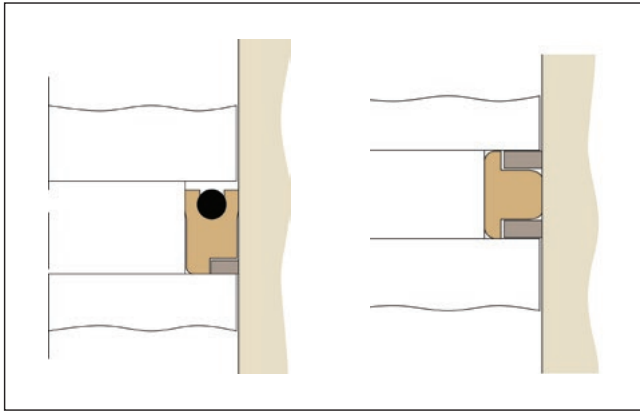

Figure 10-2. Positively-Actuated Back-up Rings
**Positively-actuated back-up rings** are actuated both axially and radially into the extrusion gap, guarding the seal against extrusion (see Figures 10-2 and 10-3). For many profiles, positively-actuated back-ups can provide the ultimate extrusion resistance while retaining the seal's original gland dimensions.